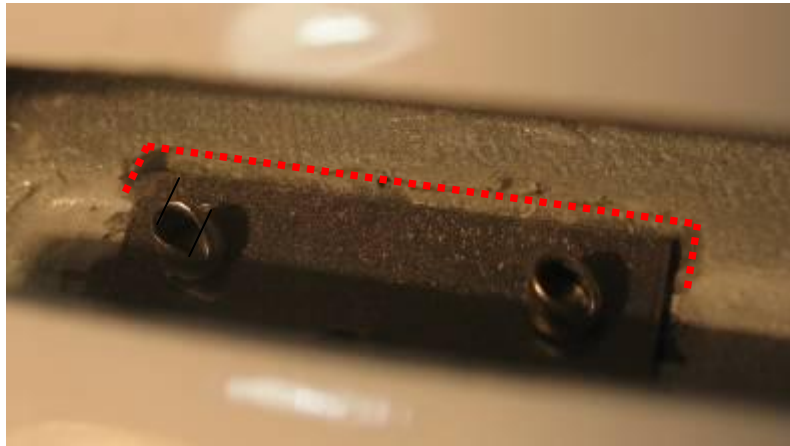

Fig. 3-34
4. Check that the unriveted flaps of the Hinges "a" and "f" of Fig. 3-16 lay completely against to the Stabilator Upper Skin. If they do – perform step 6 below. Otherwise, the cutting of the Stabilator Rear Wall gluing flanges is required, Fig. 3-34.